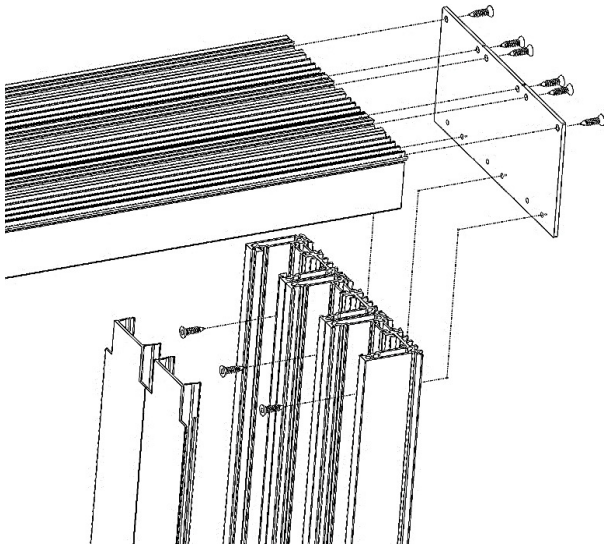

Figure 5
17. On single pocket doors, seal the pre-drilled hole/s in the threshold end plate at the lock jamb side using Dow Corning 795 silicone, or equal. Pre-drill the jamb to the end plate assembly holes at each end and as required with a #21 drill bit. Remove the jamb assembly and seal the jamb to the end plate interface at the sill location with Dow 795 sealant. See **Figures 5 & 6**.